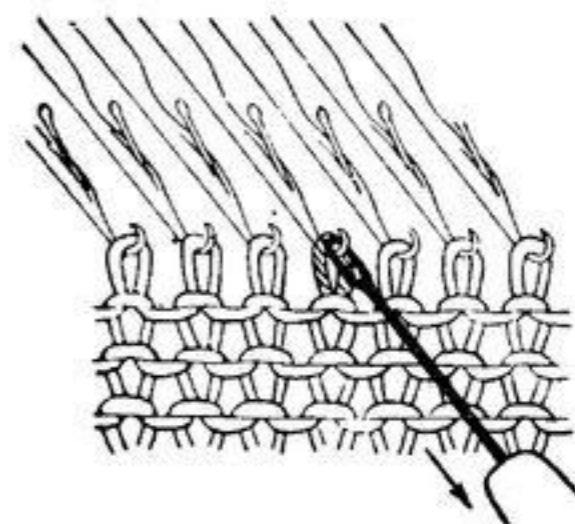

Fig. 35-1
1. Place the eye of the Transfer Tool into the open needle hook. (Fig. 35-1)